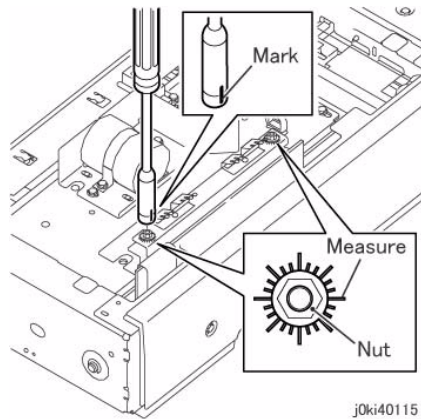

Figure 4 Rotate the nut
18. Rotate the nut. (Figure 4)
NOTE: As it is difficult to control the rotation amount, it is recommended to draw a line on a strip of paper and tape it to the tip of the Box Driver to make a mark as shown in the figure below.(Figure 4)